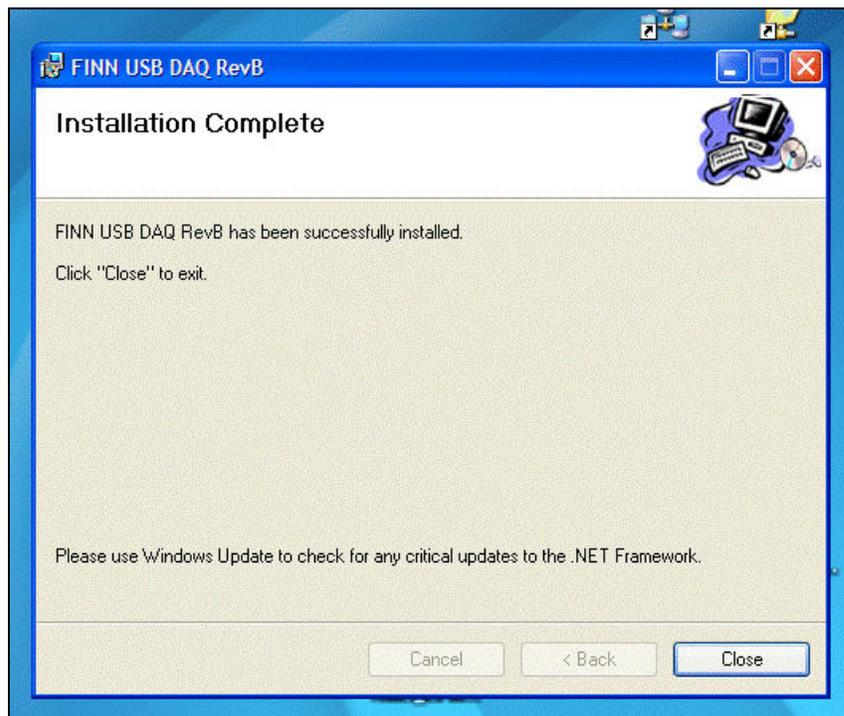

Figure 12
- The following screen will appear once the installation is finished (Figure 12).
- Click on "**C**lose" (Figure 12) and the screen will automatically close.